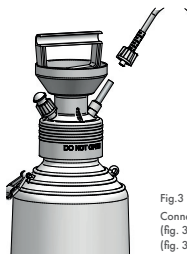

Fig. 3
Connect the suction tube provided (fig. 3/ pos. 1) to the hose connector (fig. 3/ pos. 2).